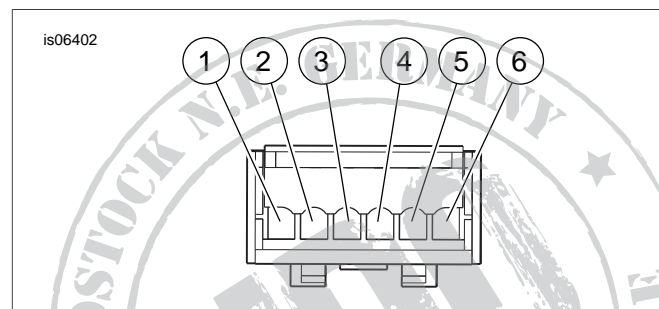

Figure 2. AMP Six-Way Pin Housing 73106-96BK (Wire-End View): Cavity Identification
- Get the six-way AMP pin housing (12) from the kit. See Figure 2. Follow the instructions in the service manual to insert the adapter harness wires and pin terminals into the correct cavities of the housing: